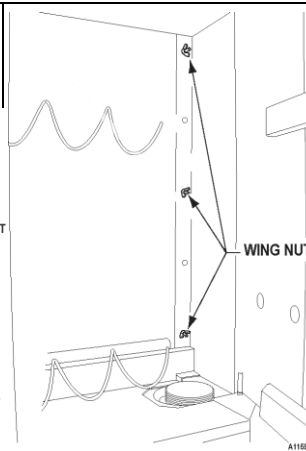

**Figure 5g. Do Not Pack**
- Leave a gap from the top of the product to the lip of the canister. **Figure 5g**.